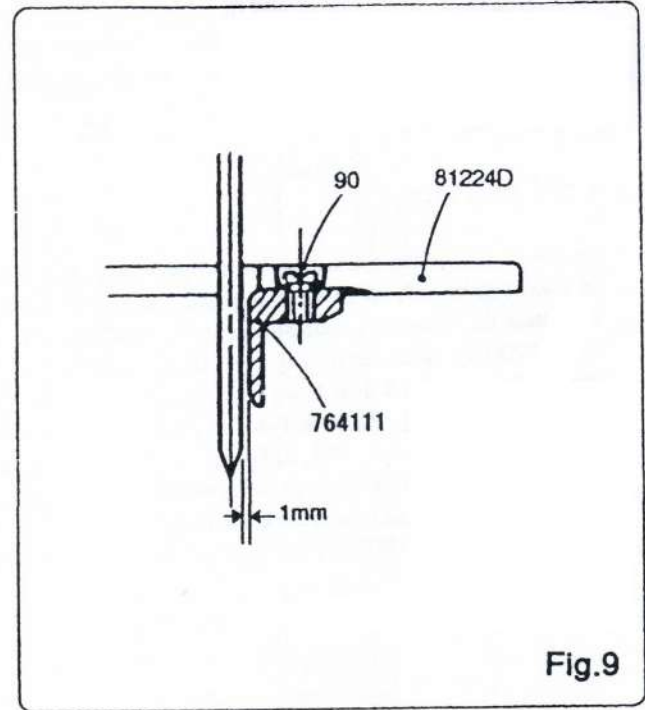

Fig.9
Install needle guard (764111) on rear side of throat plate (81224D) with a clearance of 1 mm to needle as shown in Fig. 9. Throat plate has a groove to accept needle guard. Fasten the guard in place with screw (90).
針板に取付ける針ガード（764111）は、Fig. 9で示す通り針とのスキマが1mmになるように、針板の取付け溝に沿って調整し、ネジ（90）を締付けてください。